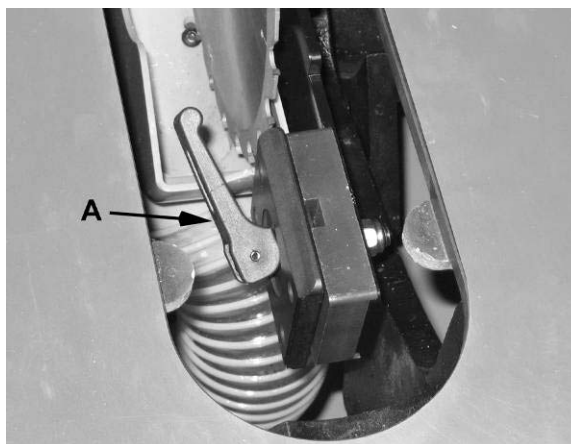
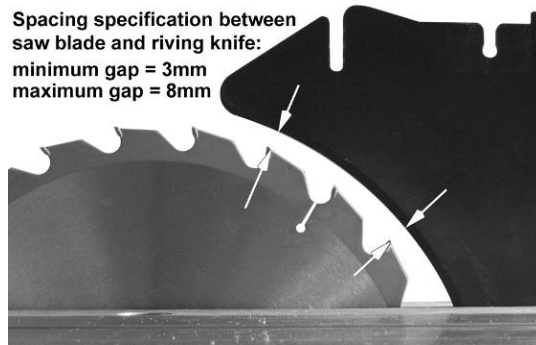

Figure 18
Figure 20
4. Loosen the *lock handle* (A, Fig. 18) and remove the riving knife, making a note as to which direction the riving knife needs to be moved to align it with the saw blade.
Adjust any number of setscrews required to bring the riving knife in alignment with the saw blade. Then reinsert the riving knife, secure by tightening the *lock handle* (A, Fig. 18) and check the alignment per step 2.
Note: Position the lock handle *towards* the saw blade as shown in Figure 18. This will avoid the table insert from being lifted when the blade is raised with the handwheel.
The gap between the saw blade and riving knife must be between 3 and 8mm (Figure 20). If adjustment is needed, note whether the blade to knife gap needs to be increased or decreased. Then adjust as follows:
3. Slide the *fixed clamp block* (F) toward or away from the saw blade as required.
4. Tighten the *socket head button screws* (E).
5. Reinsert the *living knife*; tighten the *lock handle* (A, Fig. 18) and check that the saw blade/knife gap is between 3 - 8mm (Figure 20).